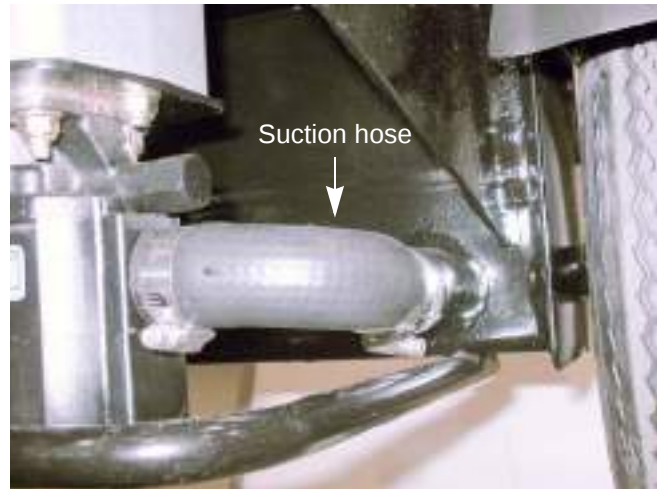

Figure 8.2
6. Remove the suction hose and drain the tank. See Figure 8.2.